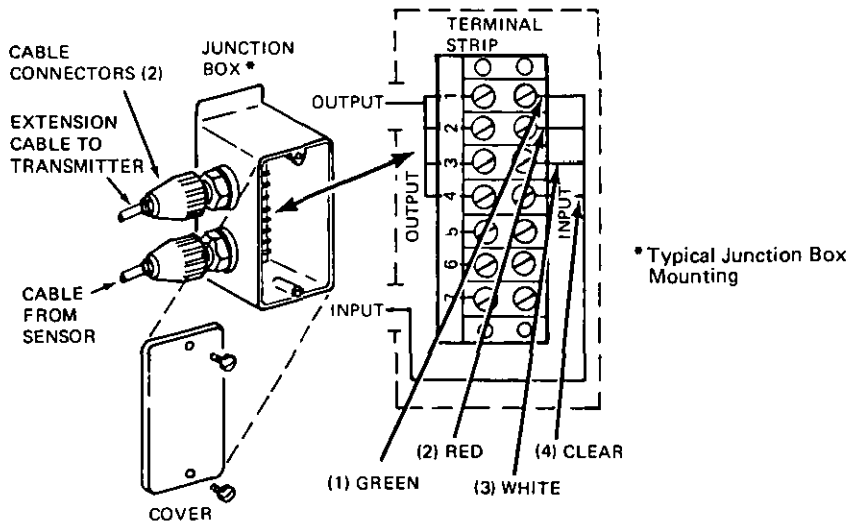

Figure 20. Junction Box Wiring
1. Remove the junction box cover and loosen the cable connectors (see Figure 20).